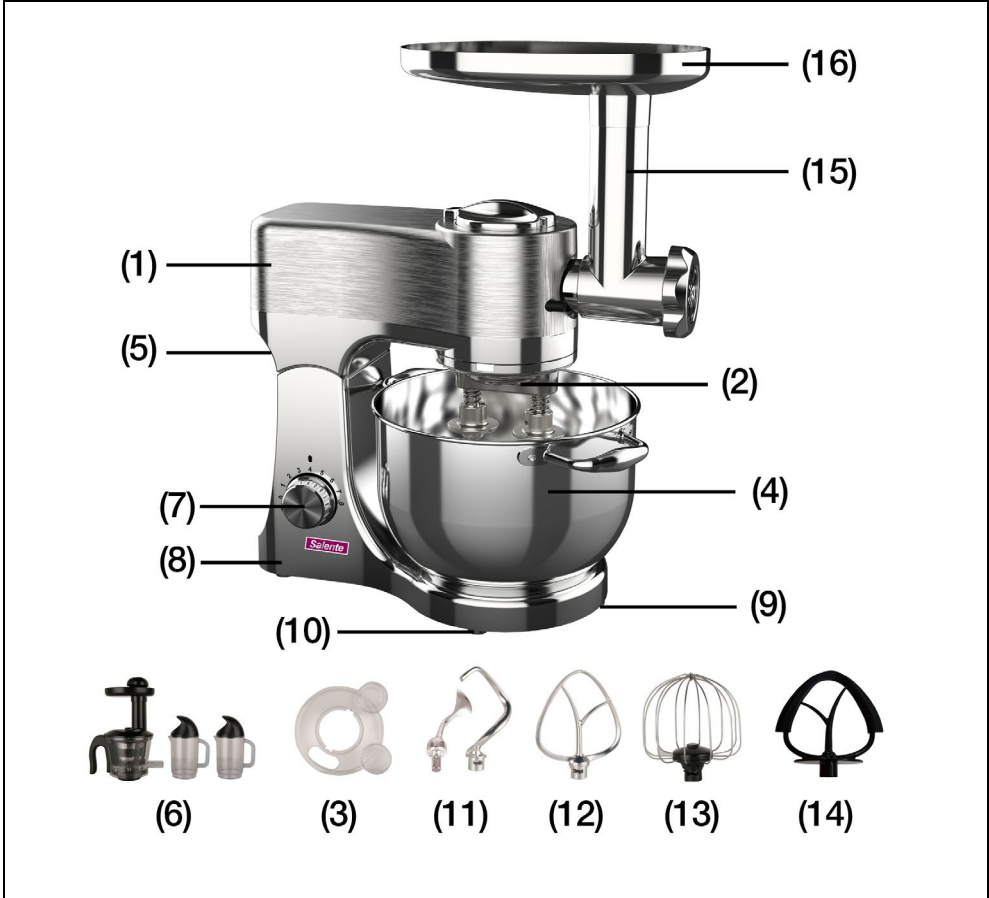

Fig. 1
1. Lift up the rise knob (5), fig. 1, unlock the top of the device and lift it.
2. Insert the agitator bowl (4) into the bottom section and turn it clockwise
3. Insert one of the following accessories into the blade connector (2): dough blade (11), mixing blade (12), egg whisk (13) or silicone beater (14) and then turn them clockwise
Assemble the meat mincer according to the instructions and attach it counterclockwise to the front of the head as shown in Fig. 1.